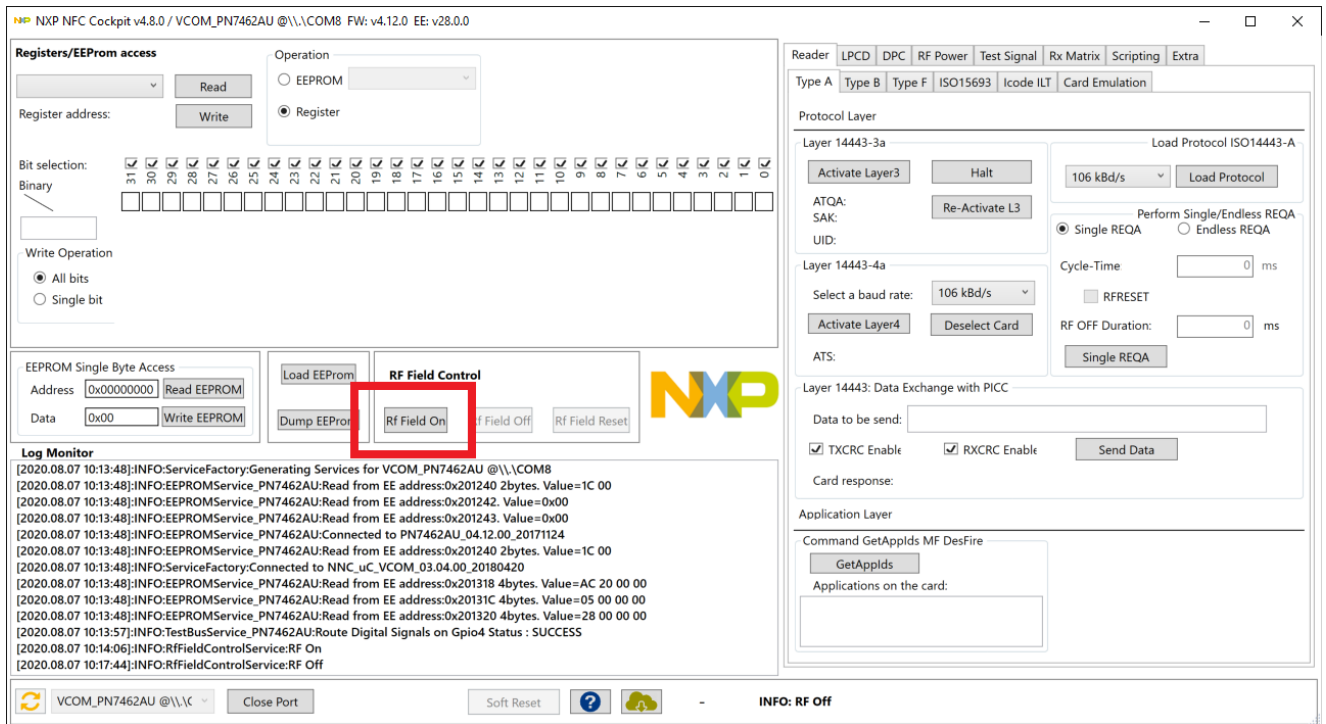

Figure 27: NXP NFC Cockpit Amplifier Detection Screen
- 4) Once the Amplifier is detected, the window shown in Figure 27 will appear.
- 5) To establish power transfer on the Amplifier, turn on the RF field by clicking on the RF Field On button (see Figure 27). NOTE: A current draw of ~200mA on VPA will be observed.